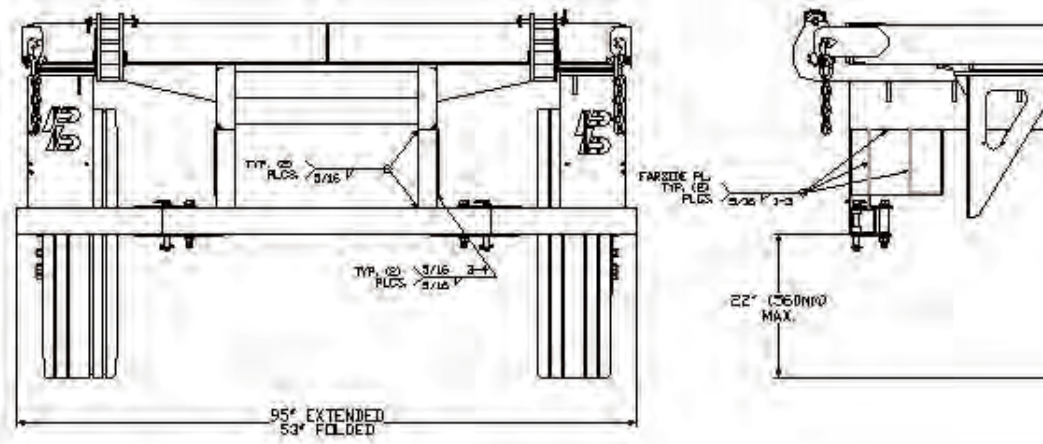

Figure 22
- 13.) After ensuring the Foldable Underride Bumper doesn't interfere with any mounting or trailer components in the stowed position, weld kit components, per ANSI/AWS D1.1. See figure 22 below.